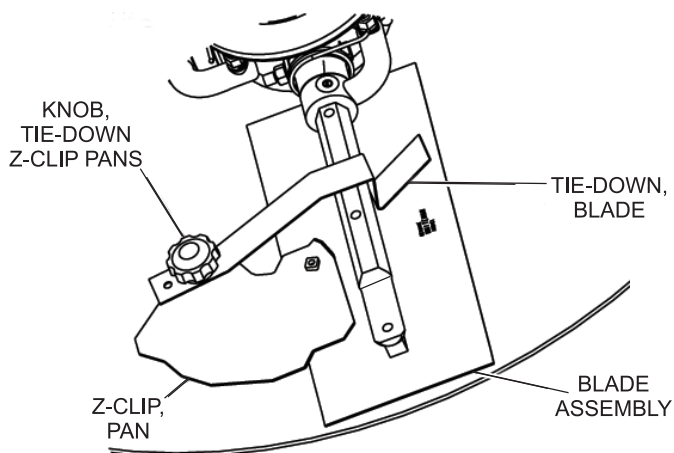

Figure 33. Z-Clip Finisher Pan Installation
Refer to Figure 33 when installing pans onto finisher blades.
3. Attach the blade tie-downs (Item #3) to the far side of the Z-Clip brackets (Item #4) with tie-down knobs (Item #2) as shown in Figure 33.